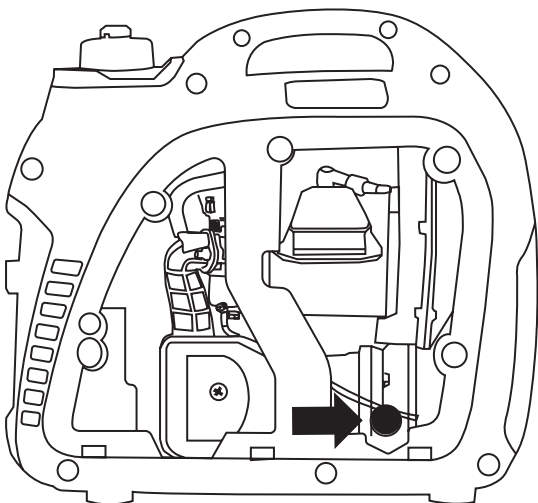

Figure 2: Oil Fill/Drain Plug
2. Clean the area around the oil fill/drain plug and remove plug (see Figure 2).